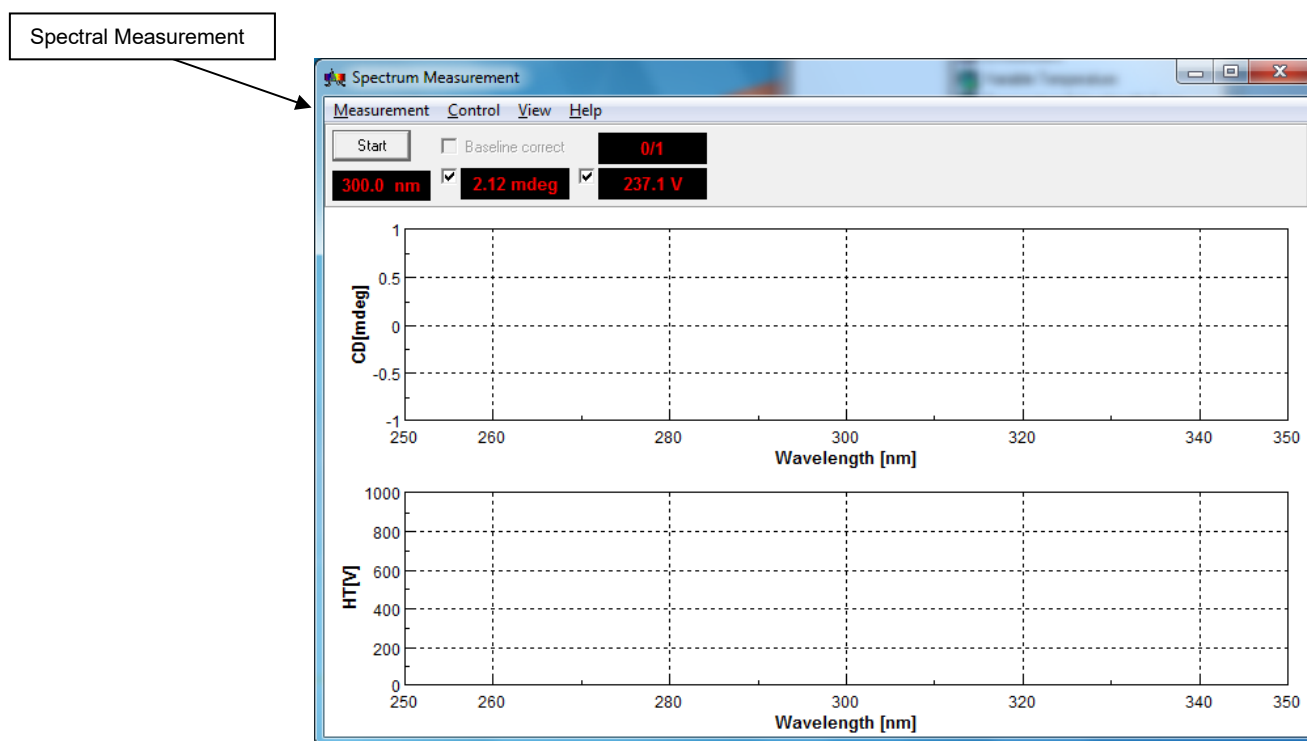

Figure 2. Spectrum Measurement Window.
5.1.6 The window in Figure 2 opens if it passes the internal diagnostics test.